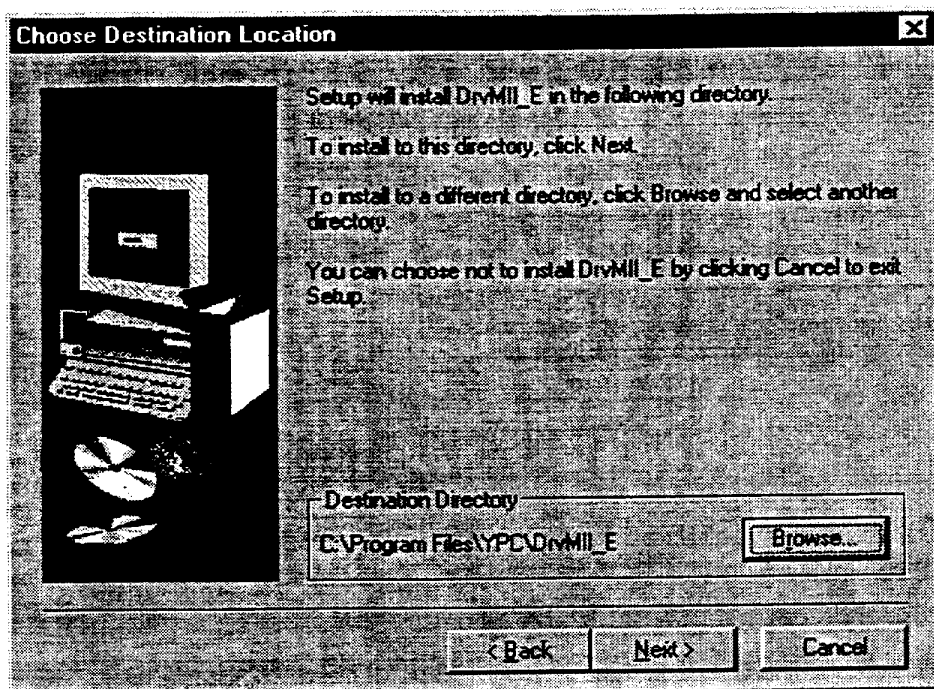

Figure 4.3.1 "Choose Destination Location" dialog box
The M2 PC utility (hereinafter referred to as the "PC utility") runs on Windows 95, 98, 98SE, Me, WindowsNT4.0 and 2000. It can be installed via "Add/Remove Programs" under the "Control Panel" in Windows. If an older version of the PC utility is present, delete it first and then install the new version. Display the "Properties of Adding/Removing Programs" dialog box and click "Set Up (1)." Then proceed according to the instructions displayed on the screen. The PC utility setup program starts up. Proceed with the setup according to the instructions on the screen. A dialog box for determining the directory in which to install the PC utility appears (see Figure 4.3.1).